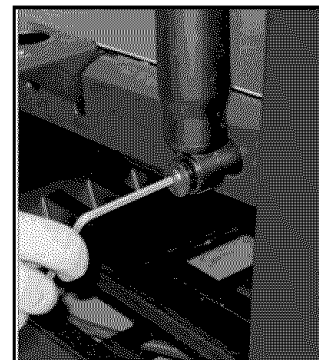

Figure 10-2
10-3 Starting on the right side, pull the cylinder down and place the eyelet on the Cylinder Stud protruding from the treadles. Attach the hydraulic cylinder using (1) 5/16" x 1" button head screws and (1) 5/16" flat washers (see Figure 10-2).